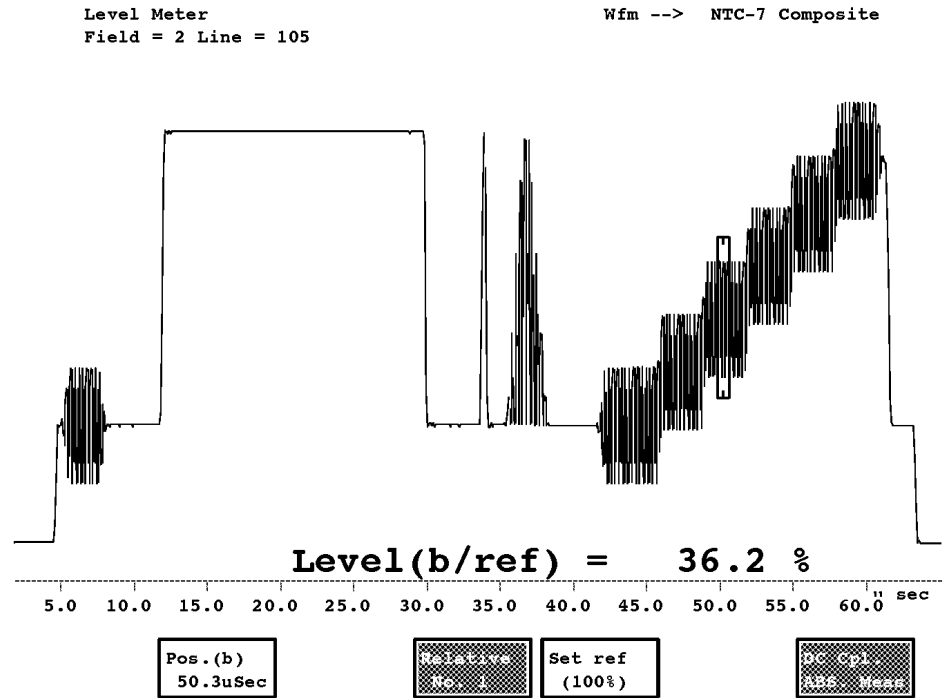
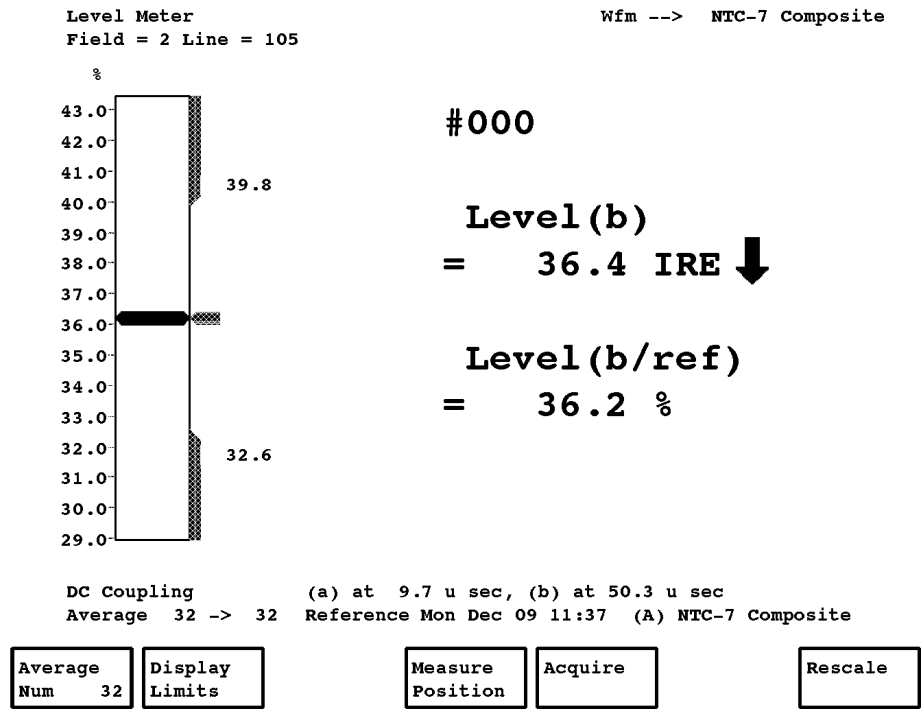

Figure 2-50: Display Position with measurement referenced to 100 IRE as 100%
Figure 2-51: Level Meter display as a result of the setup shown in Figure 2-50
**Dc Cpl.** DC Cpl. ABS. Meas. switches to dc coupling of the input signal and produces a measurement value based on the vertical position of cursor b with respect to zero volts (ground) as seen in Figure 2-50. The Level Meter display that results from setting up for a referenced and absolute amplitude is seen in Figure 2-51.